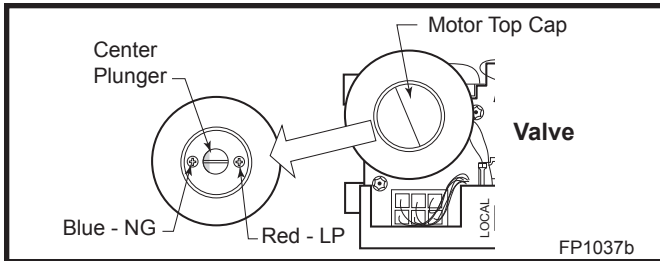

Fig. 65 Depress and turn center plunger.
- Remove motor top cap using a standard slotted screwdriver. Depress and turn center plunger until arrow points to correct screw. Red for LP and Blue for NG. **NOTE:** Plunger will “snap” into NG position when arrow is close to blue screw. It will not “snap” at LP (Red) position. (Fig. 65)